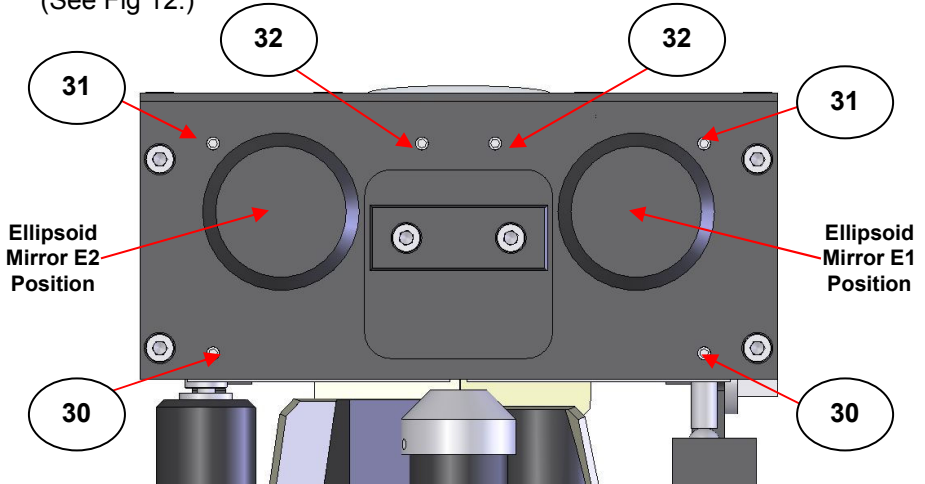

Fig 12. Ellipsoid Mirrors Angle Adjustment Grub Screws
When the final output mirror (10) has been adjusted for both rotation and tilt to obtain an optimum throughput, the signal throughput may be improved further by adjustment of the output ellipsoid mirror E2 (8). (See Fig 12.)
Both the E1 and E2 (7 and 8) mirrors are adjustable for their angular position for projection to and collection of light from the sample surface by rotational adjustment of three M3 X 10mm grub screws. As shown from Fig 12, these are: